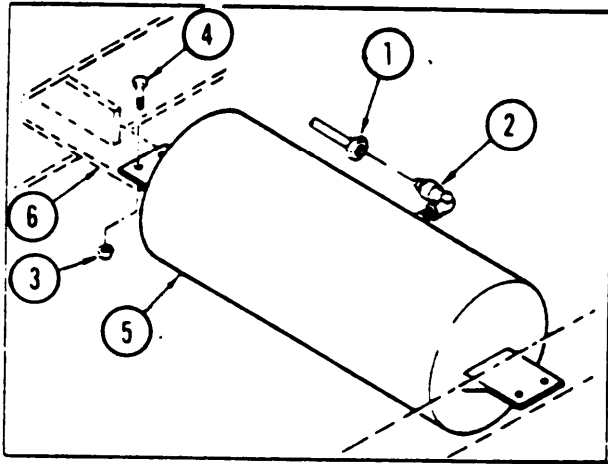

Figure 2-29. Trailer Air Brake Air Reservoir Assembly (ARMY)
2-35. TRAILER AIR RESERVOIR ASSEMBLY. (Figure 2-29) (ARMY)
e. Installation. (Figure 2-29)
(1) Position reservoir (5), tube fitting (1), nipple (2), elbow (3), and drain cock (4), as a single unit, to trailer frame (6) .
(2) Install screws (4) and nuts (3) to attach reservoir (5).
(3) Connect tubing (1) to tube fitting (2).